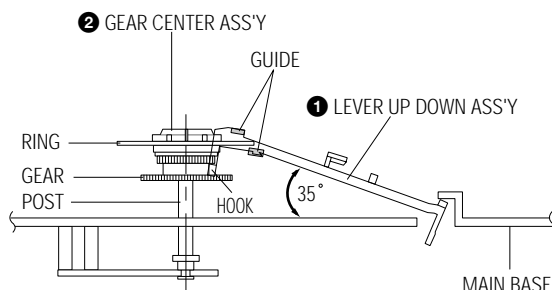

Fig. 2-30 Lever Up Down Ass'y Assembly
- 1) Insert the Lever Up Down Ass'y ❶ in the rectangular holes on Main Base as shown in Fig 2-30.
- 2) Lift the Lever Up Down Ass'y ❶ about 35°.
(Refer to Fig 2-30)